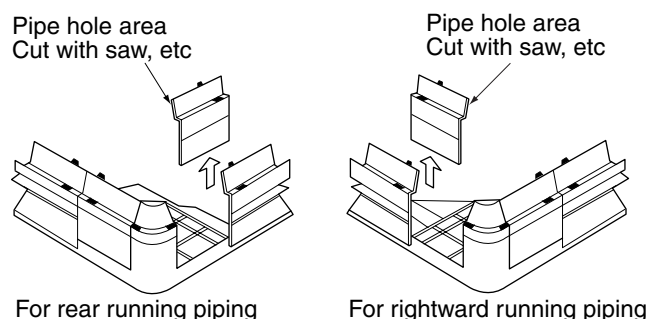

Fig. 36
- For upward or rightward running pipes, cut the corner covers as shown at Fig. 36 before attaching them.
(Refer to Fig. 36)